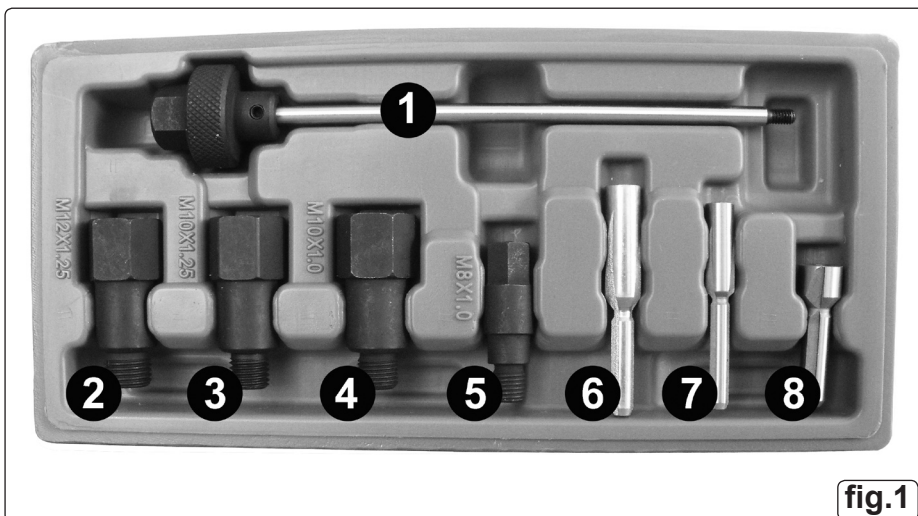
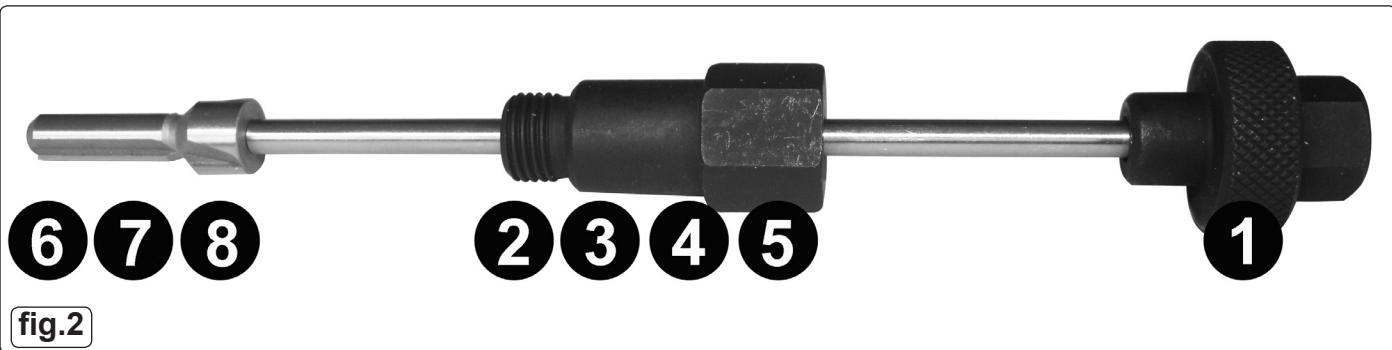

fig.1
fig.2
- 4.3. Assemble the set as shown in fig.2 using the correct configuration of reamer guide and reamer for the glow plug thread size. (See table opposite).
| Reamer/Guide Configurations (Refer to fig.1 & fig.2) | |